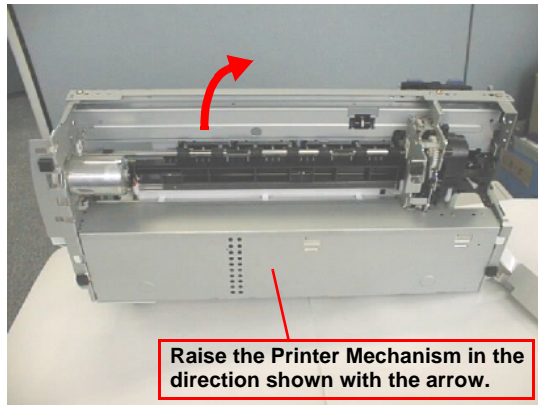

Figure 4-19. Raising the Printer Mechanism
- 4) Raise the Printer mechanism toward ASF side so that you can see the bottom of the Printer Mechanism. Refer to Figure 4-19.